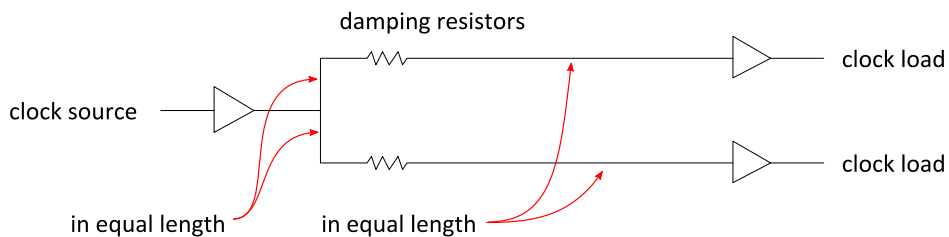

Figure 12: Series termination for multiple clock loads
- The series terminations (damping resistors) are needed for all clock signals (typically 0Ω to 47Ω). When two loads are driven by one clock signal, the series termination layout is shown in Figure 12. When multiple loads (more than two) are applied, a clock buffer solution is preferred.